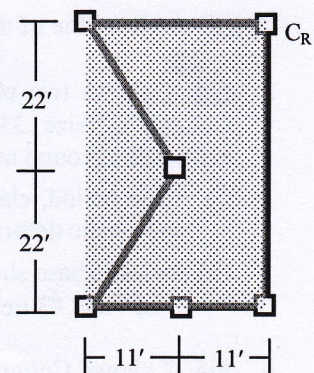

Fig. 5
10. For the floor plan of a 33-storied RC frame (with 10'-high columns) shown in Fig. 5, with beam load $w_u = 3.3$ k/ft, check adequacy of web reinforcements of a (33" × 33") RC column C_R (with steel ratio = 0.033, clear cover = 1.5" and #3 ties @ $S_t = 15''$) for the following major seismic detailing provisions; i.e.